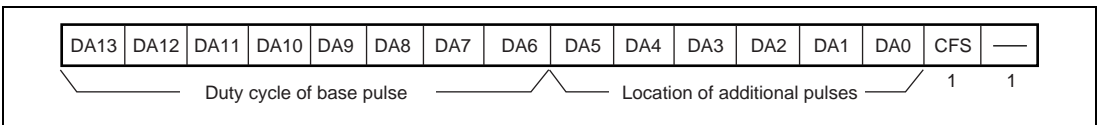

Figure 9.5 D/A Data Register Configuration when CFS = 1
An example of the additional pulses when CFS = 1 (base cycle = resolution (T) × 256) and OS = 1 (inverted PWM output) is described below. When CFS = 1, the upper eight bits (DA13 to DA6) in DADR determine the duty cycle of the base pulse while the subsequent six bits (DA5 to DA0) determine the locations of the additional pulses as shown in figure 9.5.